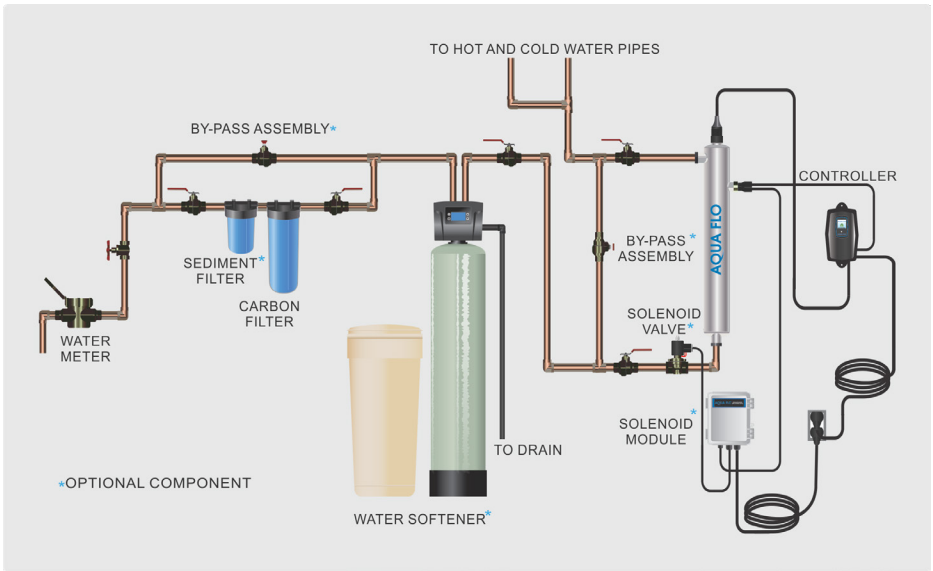

Figure 1. Recommended POE Installation Location
For Point of Entry (POE) systems, choose a location where the main cold water line is accessible. The system must be installed after other water treatment equipment (softener or filters), but before any branches (See Figure 1). For Point of Use (POU) systems, install the unit just before the faucet. AQUA FLO® recommends that a 5 micron filter be installed **before** the UV system for a final polishing step before the water is disinfected.
Step 10: Mount the controller to the wall so it is above or beside the reactor to ensure that no moisture can deposit on any of the connections (see Figure 1). Always mount the controller vertically. For monitored systems, insert the sensor connector into the IEP port located on the right side of the controller (Figure 6). For the sensor to be recognized by the controller, the controller power must be plugged in last. **Do not plug the controller power cord in before the last step.**